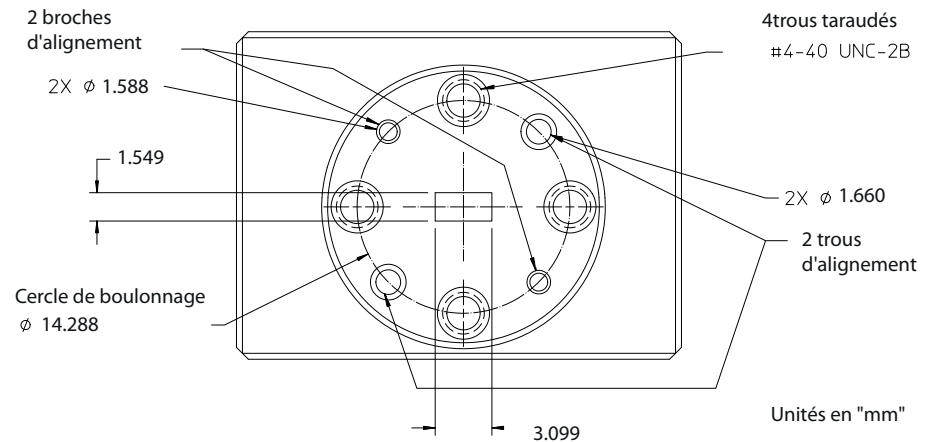

Figure 2-1 Precision E-band Interface on Front of Power Sensor
- Figure 2-1 Precision E-band Interface on Front of Power Sensor 11
The power sensor has a precision machined E-band waveguide interface. The size and position of the aperture, the alignment holes and pins, and the flatness of the mating faces are all very tightly controlled. Refer to Figure 2-1.